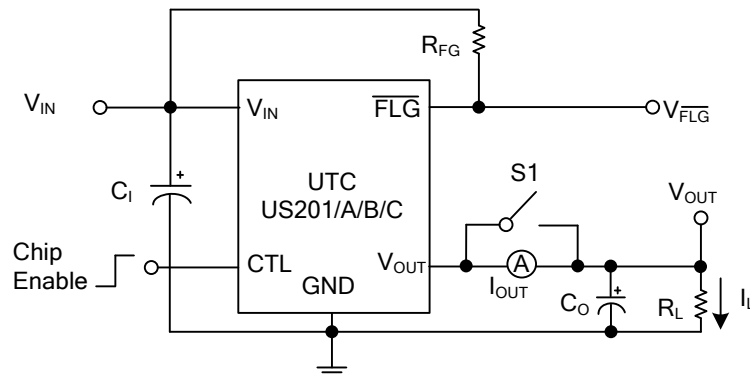

Fig.1 Turn-On & Off Response, Flag Response
- Fig.1 Turn-On Rising & Falling Time vs. Temperature, Turn-On & Off Response, Flag Response.